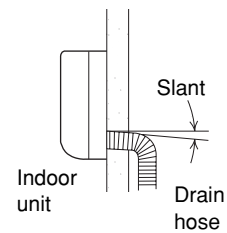

Fig. 43
- a) The drain hose should be slanted downward to the outdoors. (Fig. 43)